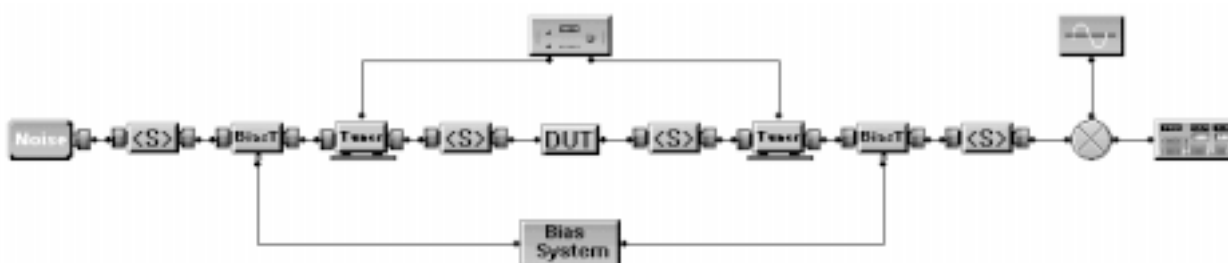

Figure 5-4. Typical Setup for Performing Noise Measurements
5.3.1 The noise measurement system should be set up per Figure 5-4. For the noise calibration, a thru will be put in place of the DUT, and the complete noise and gain parameters of the receiver will be measured vs. frequency. Tuner files must be already read into memory. During the noise calibration, a noise source file and a thru 2-port s-parameter file will be needed. The noise source file contains the ENR and the reflection coefficients of the noise source in the hot/cold states. The thru does not need to be perfect, but must have known s-parameters in a file.